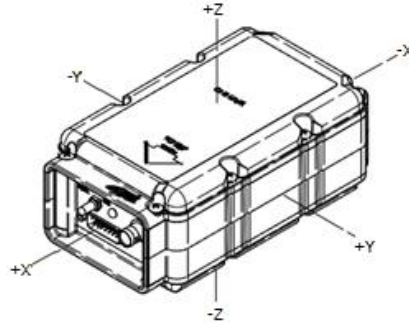

Figure 27 ELT Orthogonal Axes
- 1) The ME406P ELT may be used in helicopters, because it is equipped with a 5-axis G-switch module in addition to the usual primary G-switch, which is oriented to the direction of flight. See Figure 27 ELT Orthogonal Axes.